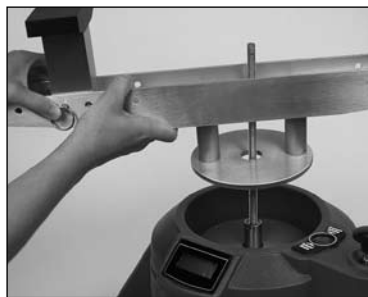

Figure 34
5. Slide the bridge-testing adapter over the threaded shaft until it rests in the well of the tester (Figure 34). Make sure the adapter does not cover the pump handle.